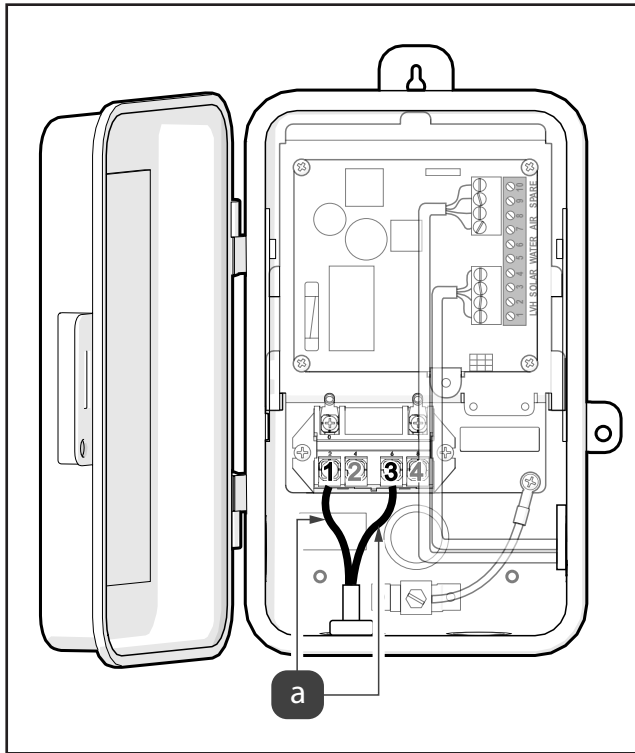

Figure 2. Connect Input Cables
9. Connect one 'Line' input to Terminal 1 and the other to Terminal 3, see Figure 2 (a).